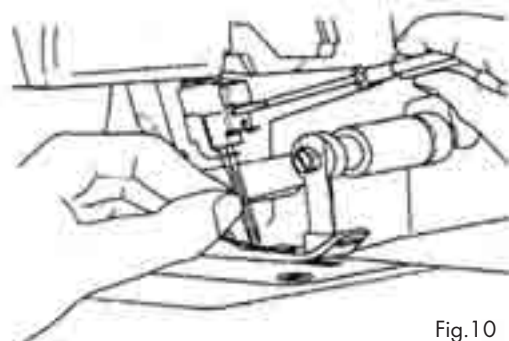

Fig.10
2. Loosen the needle retaining screws with the small screwdriver until the needles are free (Fig. 10).
3. Firmly tighten the needle screws with the small screwdriver (Fig. 10).